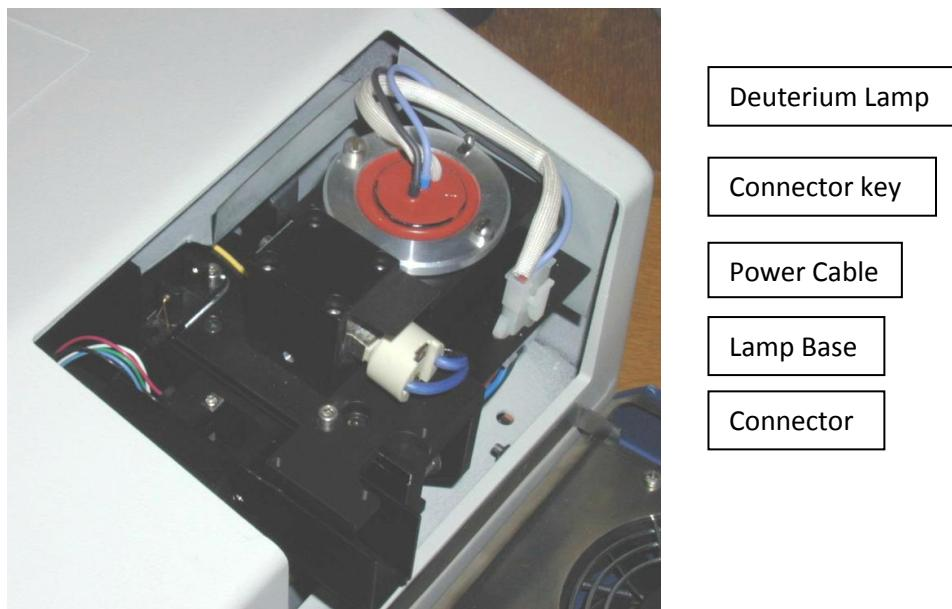

Figure 3-3. Deuterium lamp and power cable
3. Open the lamp housing cover by swinging it down from the back of the instrument. The base of the deuterium lamp, power cable, and power cable connector are clearly visible(Figure 3-3).
4. On the power cable connector, press down on the top of the connector key to unlatch it, then disconnect the lamp power cable from the power cable connector (Figure 3-3).